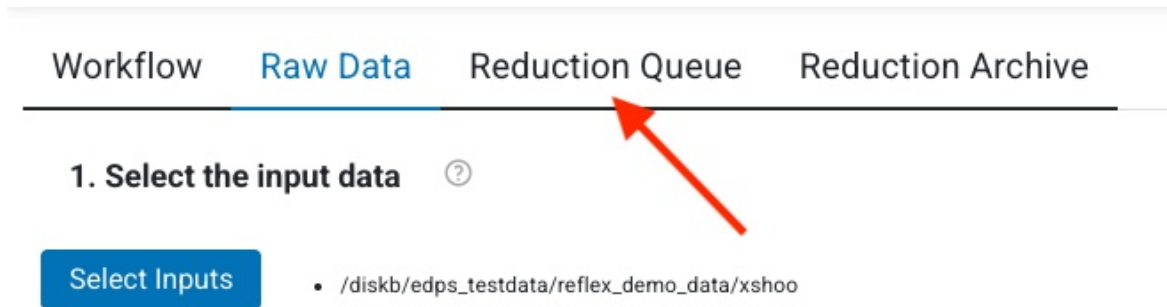

Figure 9: How to select Reduction Queue tab.
1. Press the ‘Reduction Queue’ tab (Figure 9).